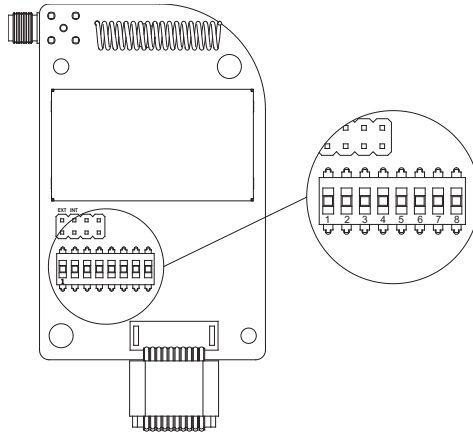
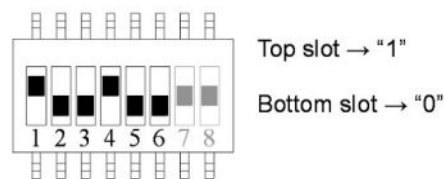

Fig. 17
Fig. 18
Set the receiver channel by adjusting the channel dipswitch located on the receiver module (**see Fig. 17**). Only the first six (6) positions are used for channel programming (**see Fig. 18**). The system channels table in **Section 5 on page 53** illustrates which dipswitch setting corresponds to which channel. Once the receiver channel is altered, be sure to change the transmitter channel as well. The channel on both the transmitter and the receiver must be identical in order for the system to work. To change the transmitter channel, **see Section 4.1.1 on page 25**.